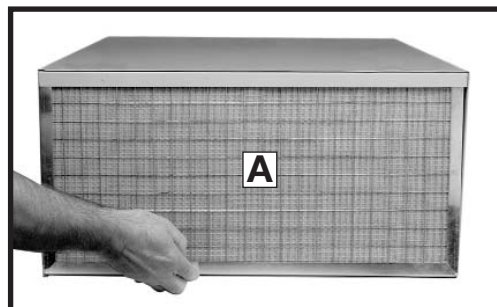
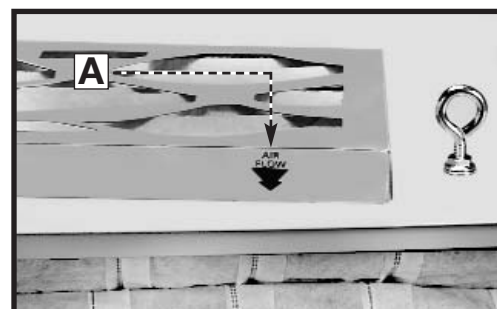

Fig. 9B
Fig. 9D
- Remove the outer first stage filter (A) Fig. 9B by lifting and pulling out on the bottom of the filter. Clean or replace the first stage filter depending on its condition. Clean this filter in one of two ways: Use a shop vac to remove the dust, or use compressed air (30 psi maximum) to blow the dust out of the filter. If you replace the outer filter, check to see if the filter has an air flow arrow (A) Fig. 9D. If so, point the arrow inward. If the filter does not have an air flow arrow, install the filter either way.